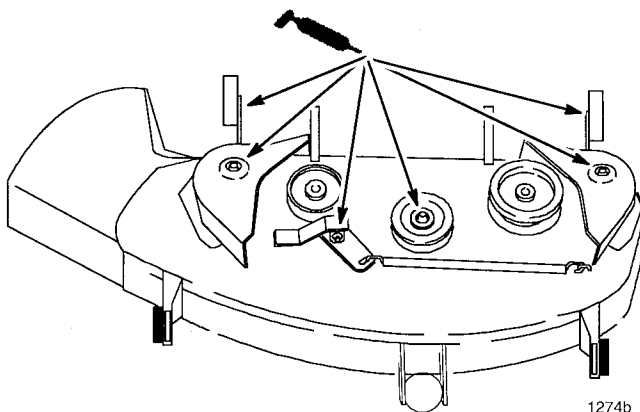

Figure 23
1. Lubricate the blade spindles, idler pulley arm and gage wheel bearings (Fig. 23).